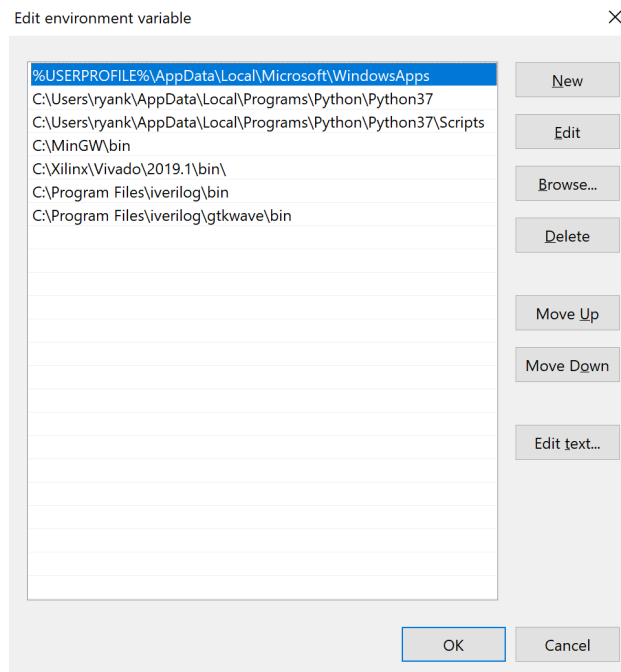

Figure 7: Adding programs to your PATH.
- Click the next empty row and paste the path of the appropriate program (Fig. 7). Hit okay and you're done!